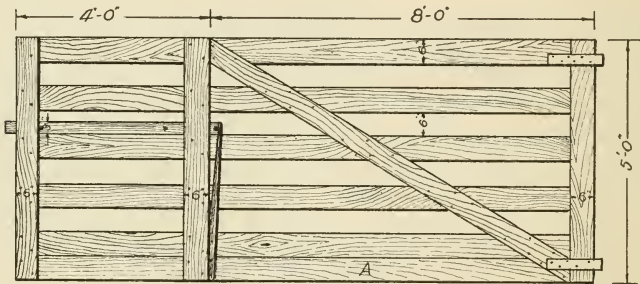

FIG. 97. — FARM GATE.
2. **Nailing gate together.** — Lay five of the 12' boards 6" apart on the floor. Lay the sixth board against the edge of the fifth. (See *A*, Fig. 97.) Lay one upright across each end; and drive one nail through the uprights into the end of each board properly spaced, with the end of the boards flush with the edge of the upright. An easy and satisfactory method